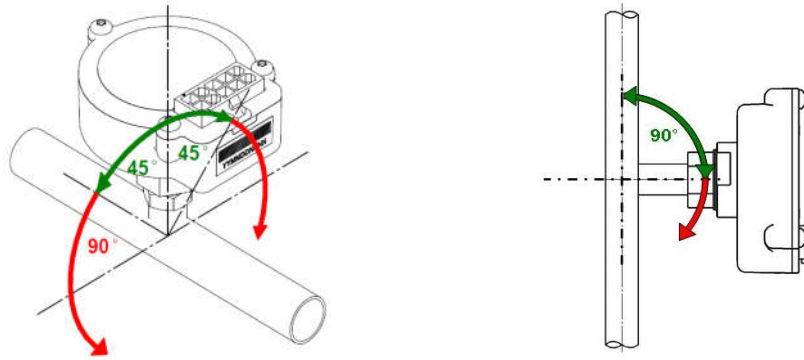

Figure 2-1 DPTS installation orientation on horizontal and a vertical tube
2. When installing the DPTS horizontally as shown in **Figure 2-1**, the DPTS can only be installed up to a 45° angle from the vertical axis in either direction (represented by the curved green arrows). When installing the device on a vertically, the DPTS cannot be installed at a downward angle (represented by the red arrow).